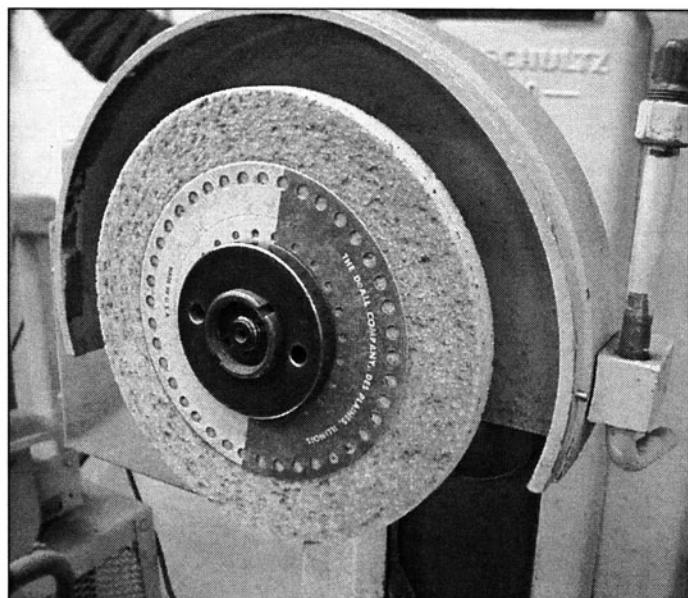

FIGURE 14-2 Porous grinding wheels have less tendency to load up and burn surfaces than non-porous wheels.
6. *Use porous wheels for heavy stock removal. (See Fig. 14-2)*